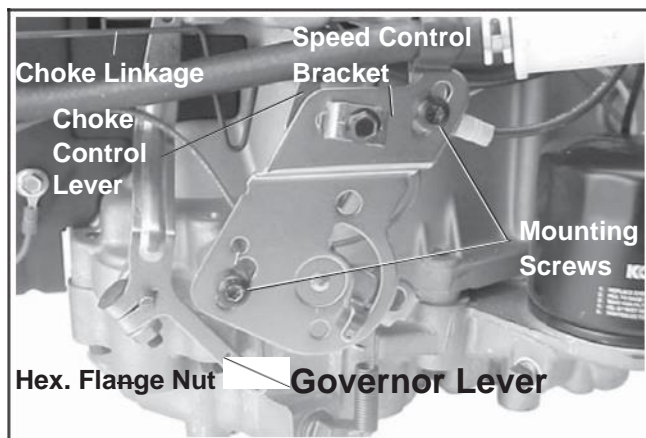

Figure 9-9. Removing Speed Control Bracket.
3. Remove the two hex. flange screws and speed control bracket. See Figure 9-9.